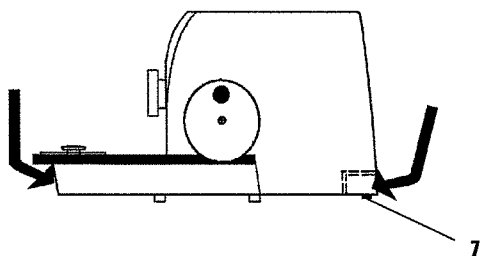

Fig. 10.2
- Lift the instrument (4) from the foam part (5) holding it at the front of the base plate and at the recessed grip at the rear (Fig. 10.2).